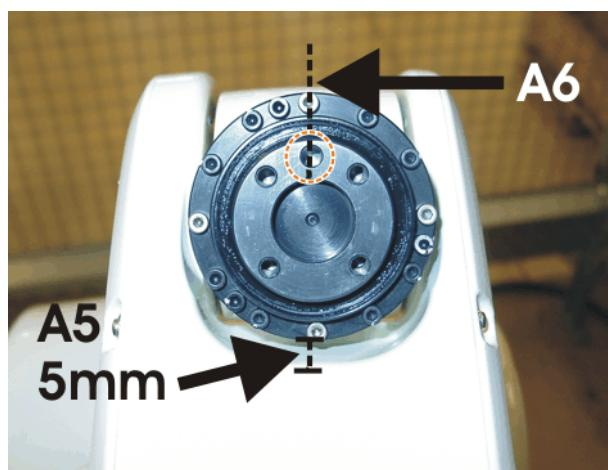

Fig. 10-37: Pre-mastering position A5 and A6
1. Move A5 so that the tool flange is approx. 5 mm from the **top side** of the robot wrist (>>> Fig. 10-37).
2. Move A6 so that the screws are lined up as shown in the figure (>>> Fig. 10-37).